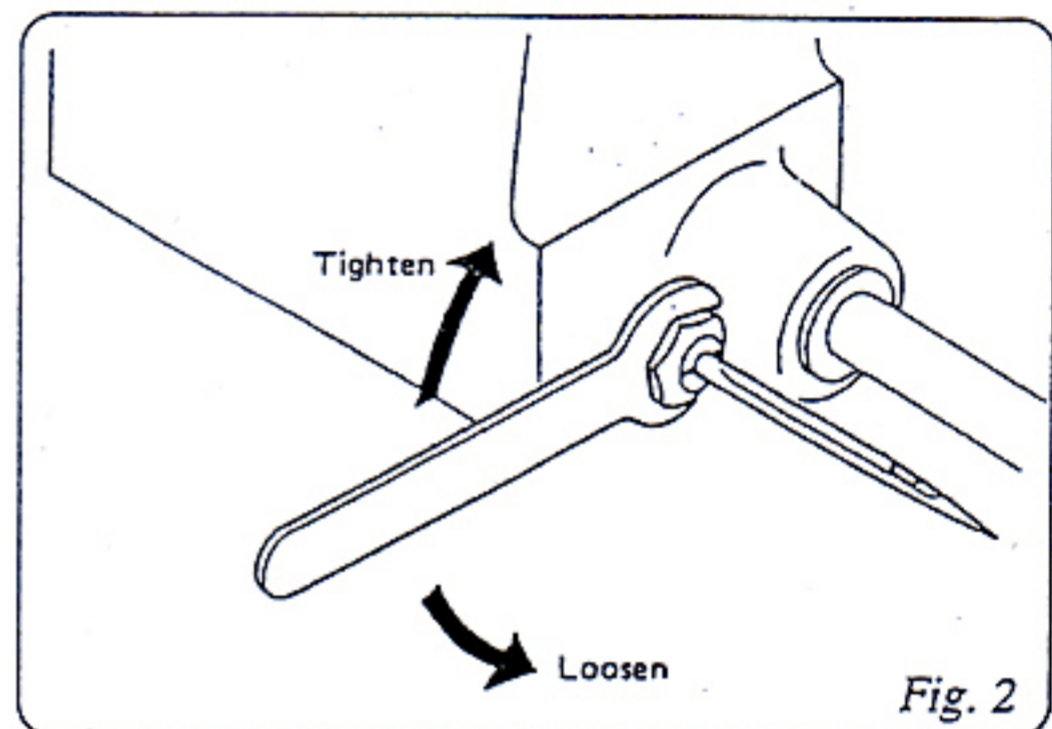

Fig. 2
2. Needle Setting (Fig.2, 3, 4)